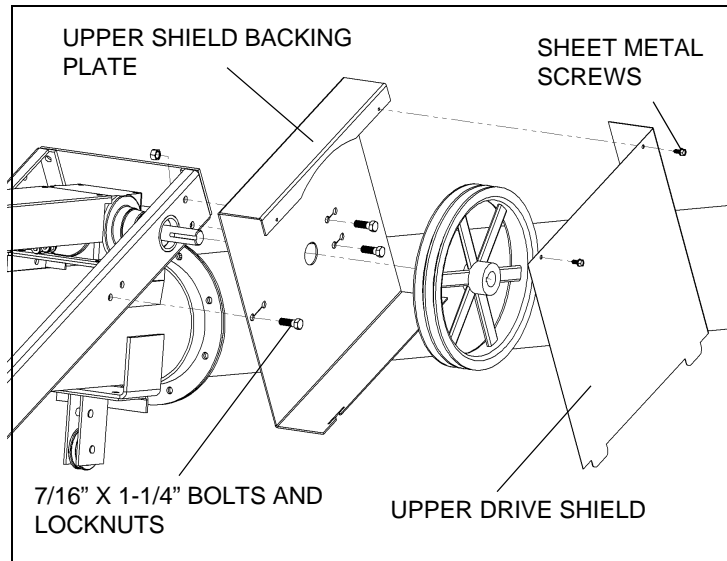

Figure 3.35
13. Install upper shield backing plate to the upper end of the left frame channel using three 7/16" x 1-1/4" bolts and locknuts (Figure 3.35). Orient bolts to point toward the frame, with nuts on inside of channel. Tighten bolts.
14. Install supplied 12-3/4" aluminum pulley onto gearbox as shown in Figure 3.35. The pulley should be installed as far away from the frame as possible while still
19. Slip tabs of upper drive shield into notches on the upper shield backing plate mounted to the frame in step 13. Secure shield with 2 sheet metal screws (Figure 3.35).